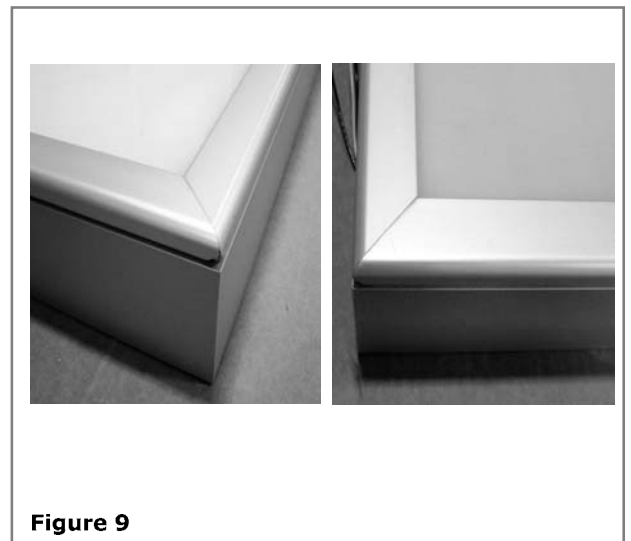

Figure 9
3. Close the frame and proceed to an adjoining frame section until all four sections are closed and the corner match up. **See Figure 9.**